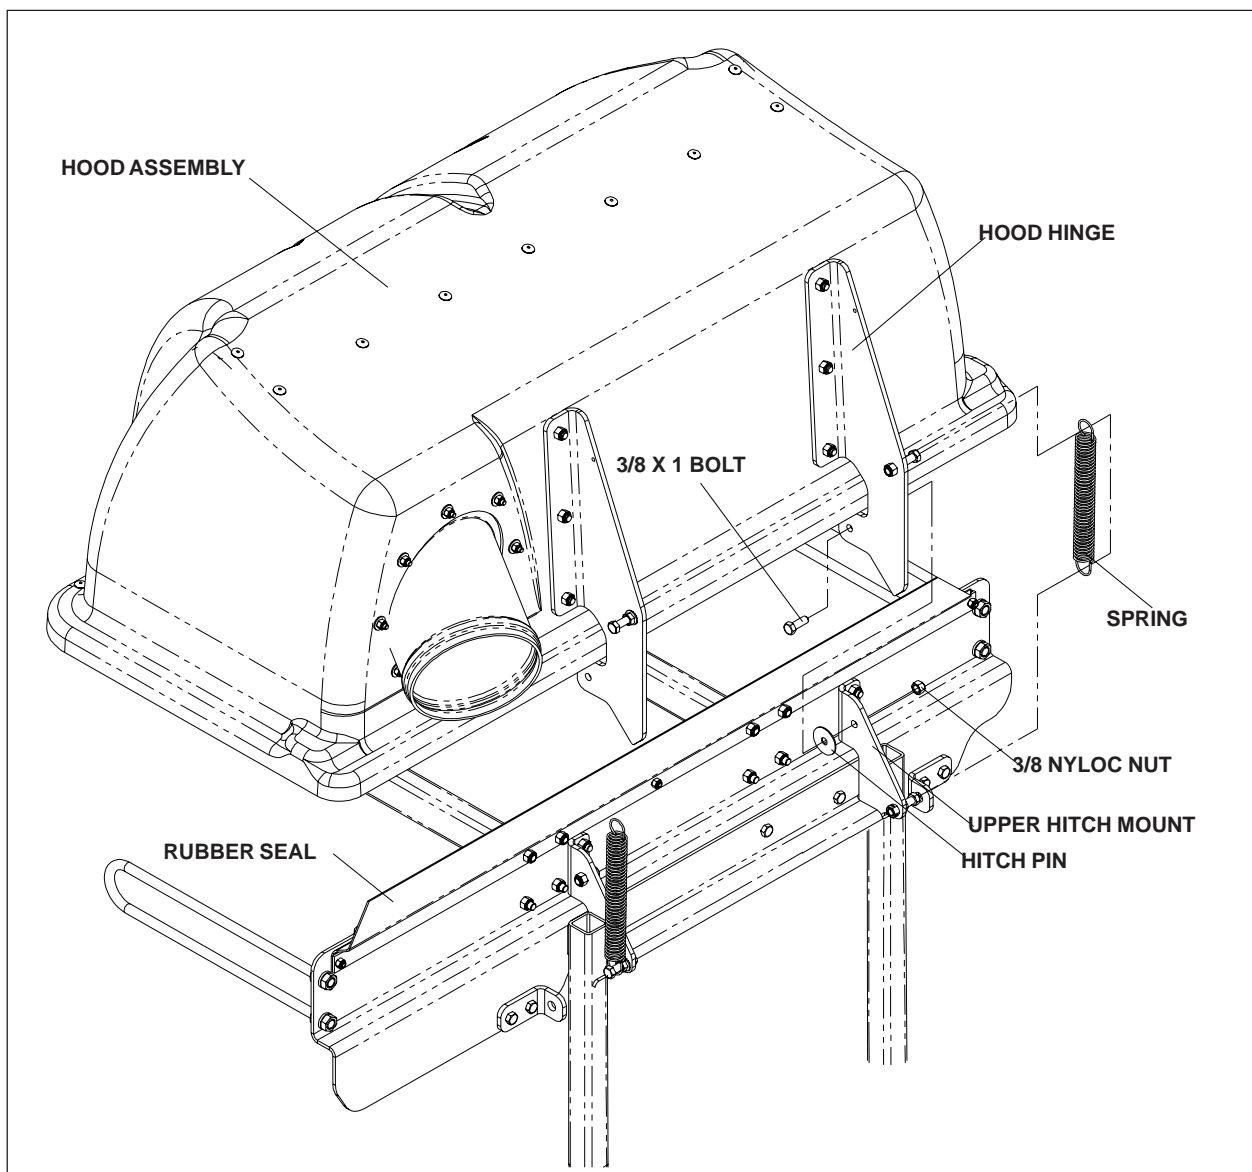

FIGURE 3
4. Place the hitch assembly on the ground behind the mower. Place the (2) hitch pins thru the hitch and the hitch brackets. Secure the hitch pins with the (2) hairpins that are secured with the (2) lanyards. Figure 3.
6. Place the hood assembly on to the hitch assembly. Place both hood hinges between the upper hitch mounts on the hitch assembly. Be sure that the rubber seal is on the inside of the hood. Place the (2) friction washers between the hood hinge and the upper hitch mount. Place the (2) 990563, 3/8 x 1 bolt thru the hinge and mount. Secure with (2) 976979, 3/8 nyloc nut. Figure 3.
7. Open the hood and secure the (2) springs to the bolts on the hood assembly and the hitch assembly. Figure 3.